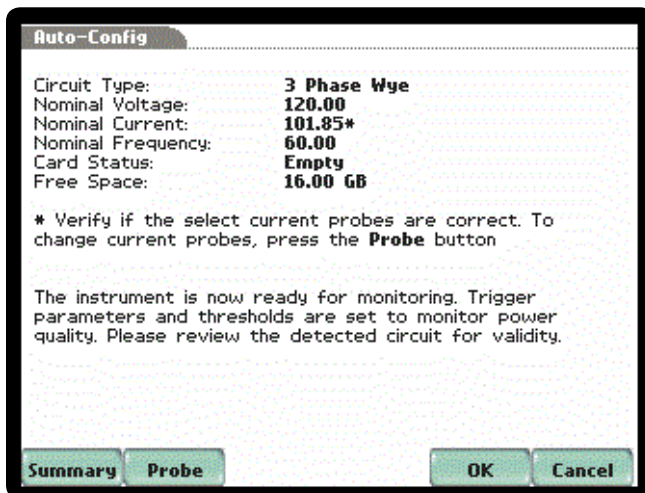

Figure 3a. The EP1 enables quick and easy set up.
As shown in Figure 3a, the EP1 not only provides a rich feature set, it is also quick and easy to set up. First, is an automatic setup that requires virtually no user programming. The user simply selects “Automatic Setup” from the Start/ Setup button on the main page and the EP1 will sense the wiring configuration, nominal voltage and current, and set itself up using industry-standard settings. The user only has to select the CTs being used, which are easily chosen from an onscreen list. Once this is done and “OK” is pressed the analyzer is up and running. All parameters available in the EP1 will be recorded and trended automatically and will be monitoring correctly when unattended. The EP1’s 4GB compact flash (CF) removable memory, the largest available, allows for ample storage for even the longest of surveys—even in situations with recurring triggers that would fill the memory of most other instruments and render them useless.